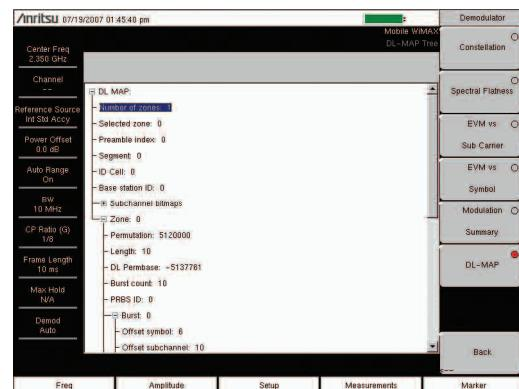

Figure 9. DL-MAP view.
2. Press the DL-MAP soft key to activate the measurement. The red dot on the soft key indicates it is selected (Figure 9).